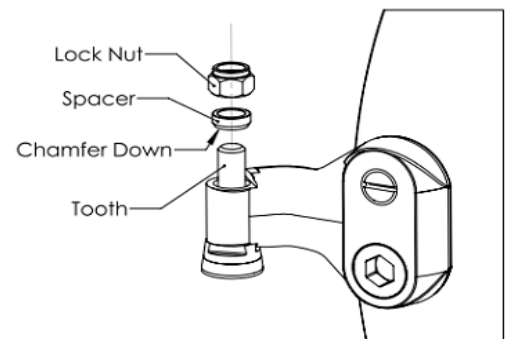

Figure 1.2
9. Install your teeth with the carbide facing down. The shoulder of the tooth will meet the flat indent of the pocket and the tooth will not rotate. Insert the spacer over the shank, with the chamfer down, then thread one of the lock nuts onto the top portion of the tooth. Hand tightening is good for now. Repeat until all teeth are installed. (Figure 1.2)